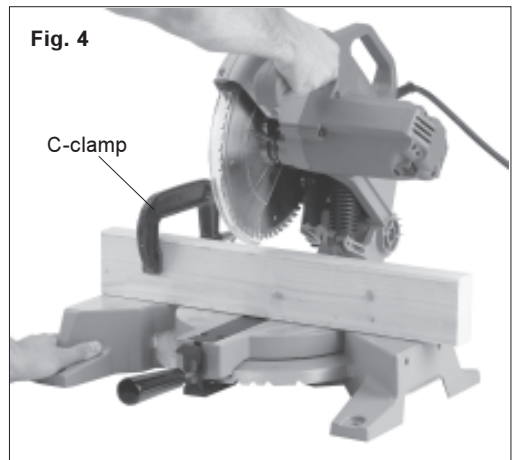

Fig. 4
3. *Use a C-clamp:* Clamp the workpiece to the fence with a C-clamp (Fig. 4).